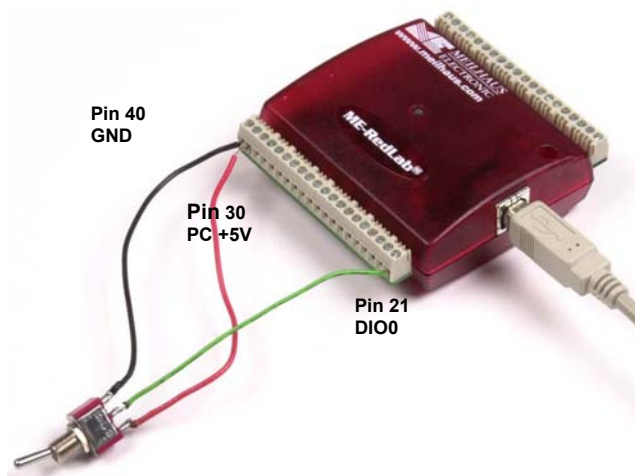
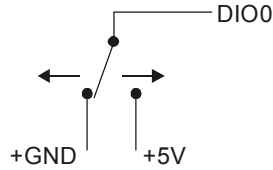

Figure 6. Digital connection DIO0 detecting the state of a switch
Figure 7. Schematic showing switch detection by digital channel DIO0
When you configure the digital bits for input, you can use the RedLab 1608FS digital I/O terminals to detect the state of any TTL-level input. Refer to the switch circuit shown in Figure 6 and the schematic shown in Figure 7. If you set the switch to the +5 V input, DIO0 reads *TRUE* (1). If you move the switch to GND, DIO0 reads *FALSE* (0).